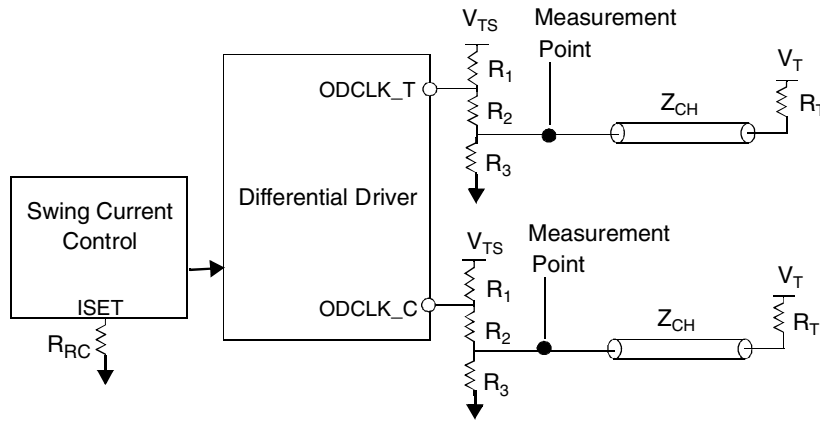

Figure 2. Example System Clock Driver Equivalent Circuit
1 When using singled-ended clock input, V_{TH} is supplied to CLK_INT_C as shown in Figure 2.
Figure 2 shows the clock driver equivalent circuit. The differential driver produces a specified voltage swing on the channel by switching the currents going into ODCLK_T and ODCLK_C. The external resistor R_{RC} at the IREFY pin sets the maximum current. The minimum current is zero.
The driver output characteristics are defined together with the external resistors, R_1 , R_2 , and R_3 . The output clock signals are specified at the measurement points indicated in Figure 2. Table 5 shows example values for the resistors.
- 1 A different set of resistors is used in Figure 2 when testing for maximum output current of the clock driver (I_{OLABS}). These resistors are: $R_1 = 34\Omega$, $R_2 = 31.8\Omega$, $R_3 = 48.7\Omega$, $R_T=28\Omega$, $R_{RC} = 147\Omega$
For a singled-ended clock input, an external voltage divider and a supply voltage, as shown in Figure 2, provide a reference voltage V_{TH} at the CLK_INC pin to determine the proper switching point for CLK_INT. The range of V_{TH} is specified in the **DC Characteristics – Inputs** table.